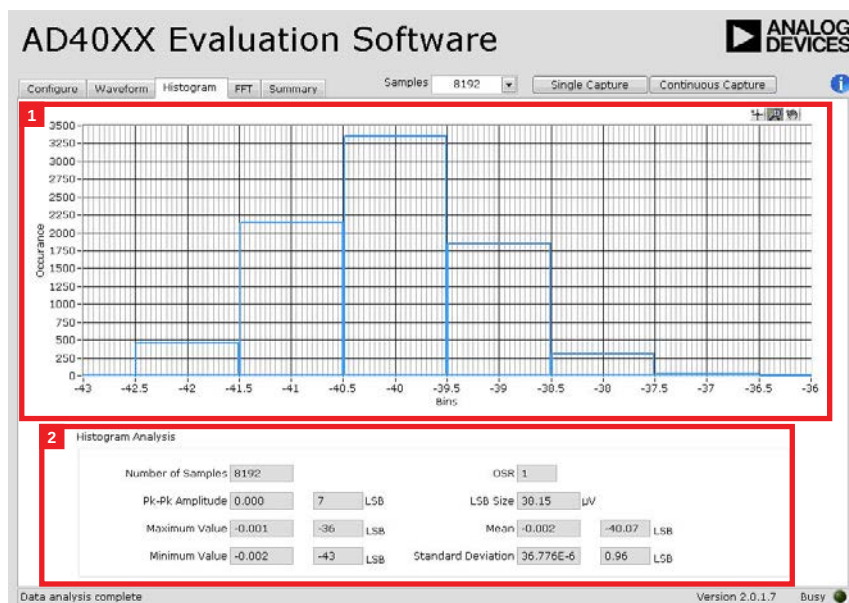

Figure 20. **Histogram** Tab View
Figure 20 shows the **Histogram** tab view. The **Histogram** tab is useful for performing statistical analysis of the **AD4000** family device conversion results, especially when measuring dc signals. The histogram graph shows the distribution of the conversion results as well as various statistical analysis items. The **Histogram** tab contains the following controls and indicators:
- **Histogram graph** (Label 1 in Figure 20): displays histogram of the most recently captured or loaded conversion results. The scale and range of the histogram graph can be set by double-clicking on the minimum and maximum axis values and entering the desired values. The histogram graph also includes viewing tools, described in Table 5.
- **Histogram Analysis** (Label 2 in Figure 20): shows the following analysis items for the currently displayed data.